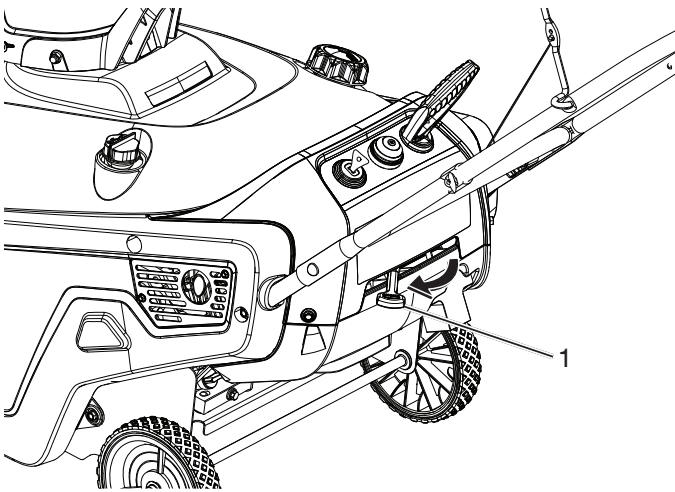

Figure 11
2. Move choke lever to left position (Figure 11).
5. While the engine is running, move the choke lever slowly to the left position (Figure 11).